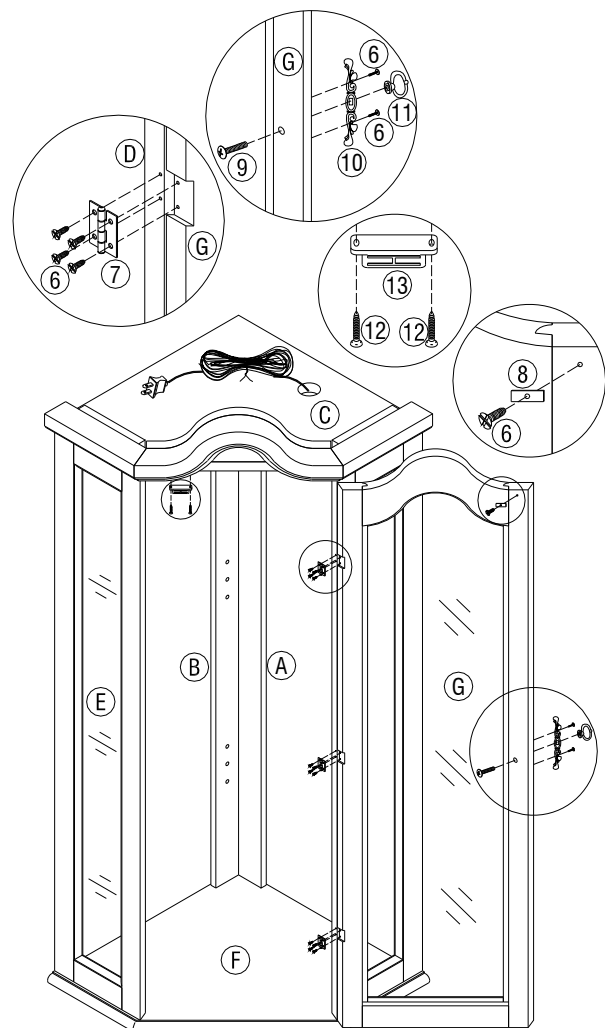

FIGURE 5
7. INSERT SMALL FLAT HEAD WOOD SCREW (6) THROUGH MAGNET PLATE (8) AND TIGHTEN INTO PREDRILLED HOLE ON UPPER DOOR (G). INSERT SMALL FLAT HEAD WOOD SCREWS (6) THROUGH METAL PLATE (10) AND TIGHTEN INTO PREDRILLED HOLES ON UPPER DOOR (G). INSERT SMALL MACHINE SCREW (9) THROUGH PREDRILLED HOLES ON UPPER DOOR (G), METAL PLATE (10) AND TIGHTEN INTO HANDLE (11). AS SHOWN IN FIGURE 5.
8. INSERT SMALL FLAT HEAD WOOD SCREWS (6) THROUGH THE HOLES ON HINGES (7) AND TIGHTEN INTO PREDRILLED HOLES ON EDGES OF UPPER RIGHT SIDE PANEL (D) AND UPPER DOOR (G). INSERT PAN HEAD WOOD SCREWS (12) THROUGH END OF MAGNET (13) AND TIGHTEN INTO PREDRILLED HOLES ON UNDERSIDE OF TOP PANEL (C). AS SHOWN IN FIGURE 5.